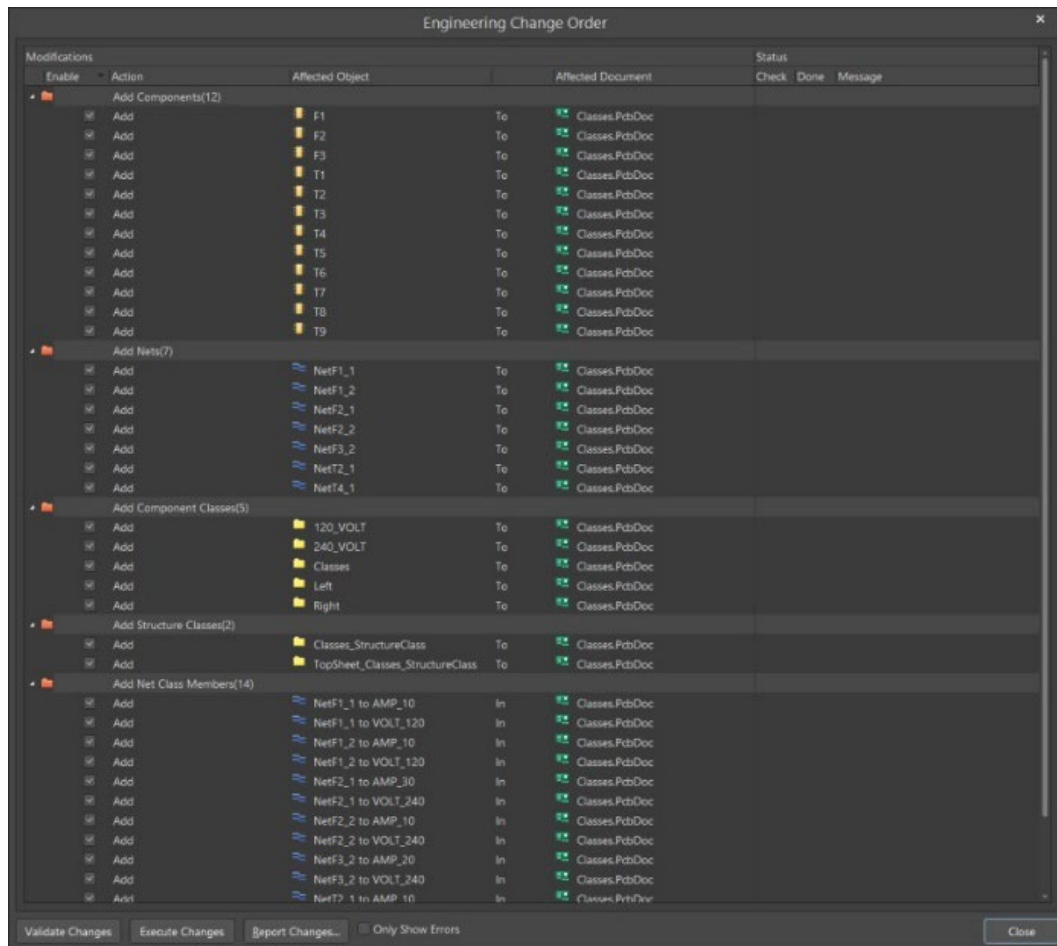

Figure 8. Engineering Change Order
40. When the *Engineering Change Order* dialog appears (see Figure 8), examine the items that will be added to the PCB. Note that the component classes are being added for the components with the user parameter `ClassName`. Click the **Execute Changes** button to update the PCB document, then click **Close**.